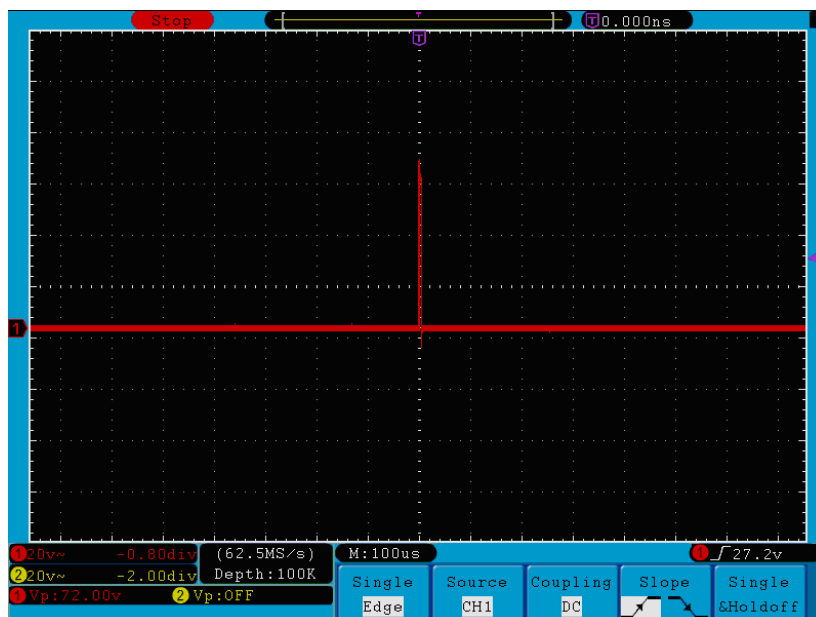

Figure 6-3 Capturing a Single Signal
- (5) Press the **F2** button to choose **Peak detect**.
- (6) Press the **Trigger Menu** button to display the Trigger menu.
- (7) Press the **H1** button to display the Trigger Type menu.
- (8) Press the **F1** to choose **Single** as the type.
- (9) Turn the **M** knob to choose **Edge** as the mode.
- (10) Press the **H2** button to display the **Source** menu.
- (11) Press the **F1** button to choose **CH1** as the source.
- (12) Press the **H3** button to display the Coupling menu; press the F2 button to choose **DC** as the Coupling.
- (13) Press the **H4** button to choose  (rising) as the Slope.
- (14) Rotate the **TRIG LEVEL** knob and adjust the trigger level to the roughly 50% of the signal to be measured.
- (15) Check the Trigger State Indicator on the top of the screen, if it is not Ready, push down the **Run/Stop** button and start acquiring, wait for trigger to happen. If a signal reaches to the set trigger level, one sampling will be made and then displayed in the screen. By using this approach, a random pulse can be captured easily. For instance, if we want to find a burst burr of high amplitude, set the trigger level to a slightly higher value of the average signal level, press the **Run/Stop** button and wait a trigger. Once there is a burr occurring, the instrument will trigger automatically and record the waveform during the period around the trigger time. By turning the **HORIZONTAL POSITION** knob in the horizontal control area in the panel, you can change the horizontal triggering position to obtain the negative delay, making an easy observation of the waveform before the burr occurs (see *Figure 6-3*).